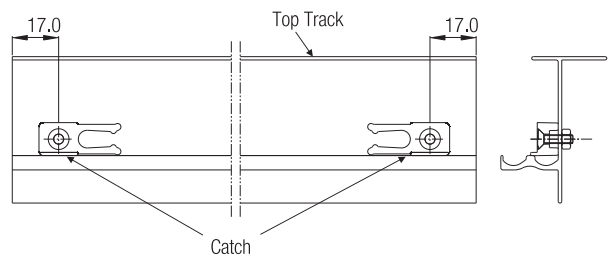

Fig. 4.
- 6.1. Fit the Catch as shown in Fig. 4. with M4 screws & nuts provided.